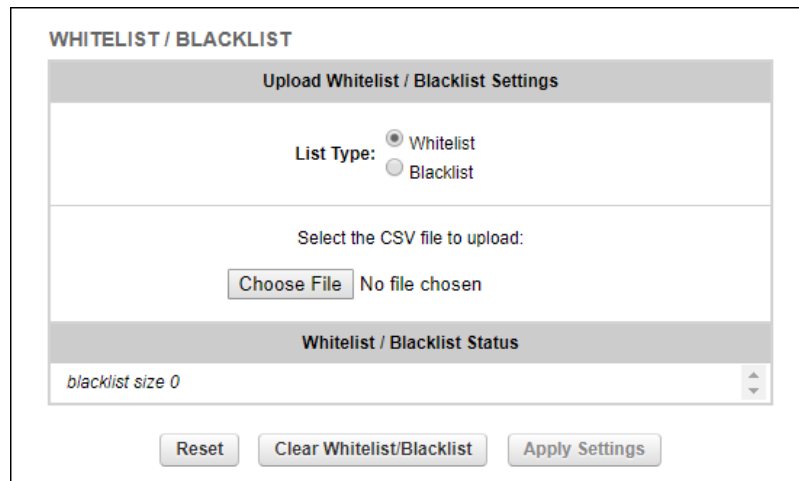

Figure 40. Configurator (Pass list / Block list dialog)
- The **Pass list / Block list** dialog will be shown (Figure 40 \(page 99\)).